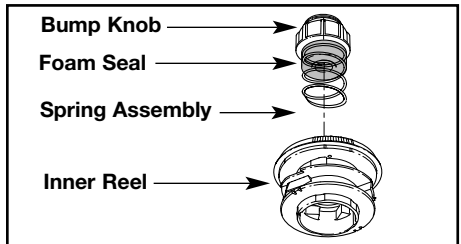

Fig. 20
- Remove the Bump Knob, foam seal, spring, inner reel, and trimming line from the outer spool (Fig. 20).
5. Install the inner reel, spring, foam seal, and Bump Knob into the outer spool (Fig. 20).